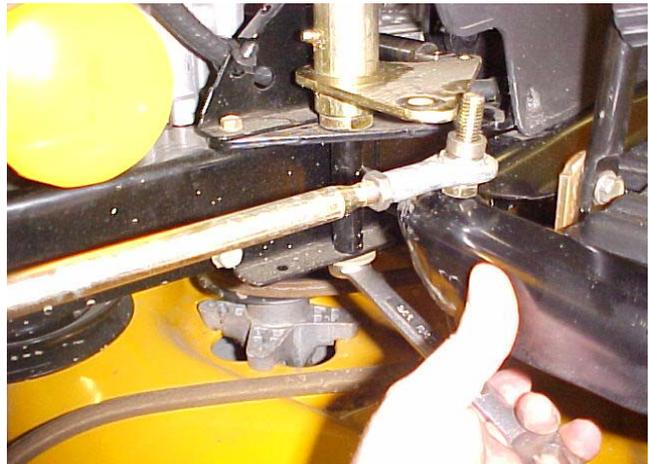

FIGURE 7
11. Remove the bolt that secures the steering pivot gear shaft to the LH steering support bracket. See figure 7.